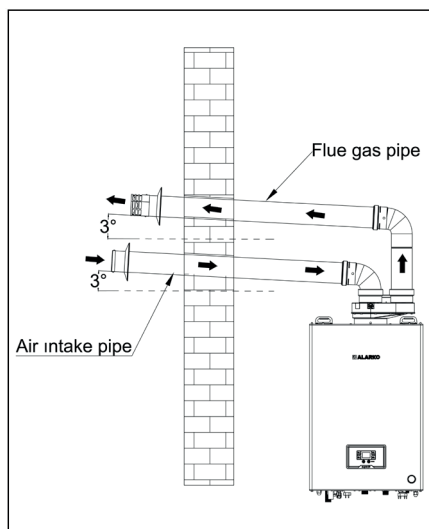
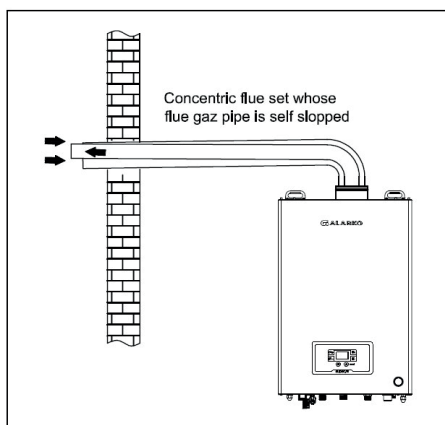

Figure 20. Angles of air intake and exhaust pipes
Figure 21. Concentric flue set angles
- Horizontal air intake pipes must slope downwards by 3° at the wall towards atmosphere to prevent the entry of rain water, dust or impurities to the pipe. For horizontal flue gas pipes, situation is different. Flue gas pipes must slope upwards by 3° to facilitate the flow of condensate water in flue back to combustion chamber, to prevent the stalactite formation by freezing in winter and the risk of drop and hurting to walking people (Figure 20). In case of horizontal concentric flues, flue gas pipe (inner pipe) must slope upwards whereas air intake pipe (outer pipe) must slope downwards. Horizontal concentric flue set must be installed parallel to floor. After installation horizontally, flue gas pipe stands slopped upwards by itself as a result of special design (Figure 21).